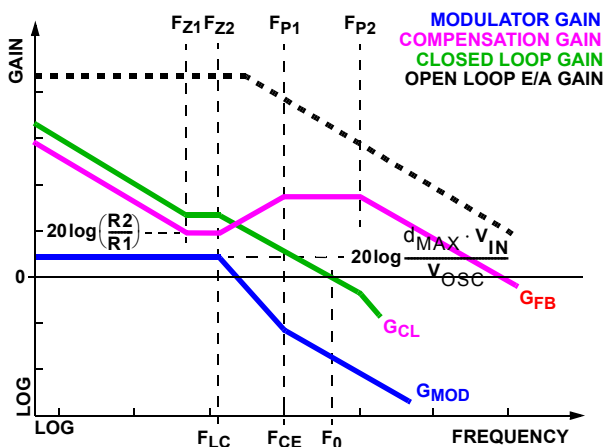

FIGURE 17. ASYMPTOTIC BODE PLOT OF CONVERTER GAIN
Figure 17 shows an asymptotic plot of the DC-DC converter's gain vs. frequency. The actual Modulator Gain has a high gain peak dependent on the quality factor (Q) of the output filter, which is not shown. Using the above guidelines should yield a compensation gain similar to the curve plotted. The open loop error amplifier gain bounds the compensation gain. Check the compensation gain at  $F_{P2}$  against the capabilities of the error amplifier. The closed loop gain,  $G_{CL}$ , is constructed on the log-log graph of Figure 17 by adding the modulator gain,  $G_{MOD}$  (in dB), to the feedback compensation gain,  $G_{FB}$  (in dB). This is equivalent to multiplying the modulator transfer function and the compensation transfer function and then plotting the resulting gain.